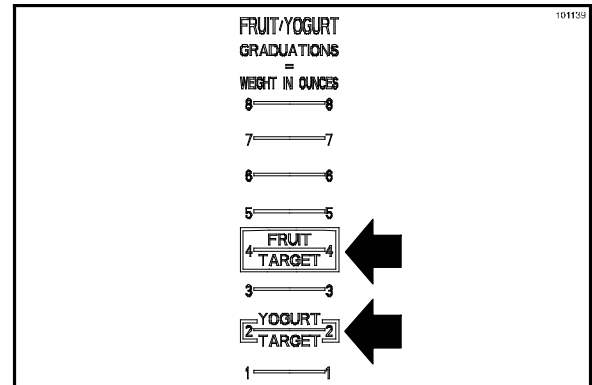

Figure 145
- Check the product level, using the appropriate scale for each type of product: Fruit/Lemonade, Frappe, and Yogurt. (See Figure 145.)